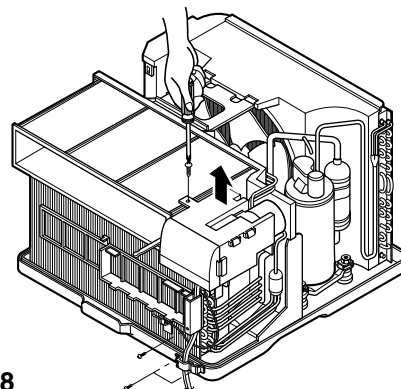

Figure 18
13. Raise the control box upward completely. (See Figure 18)